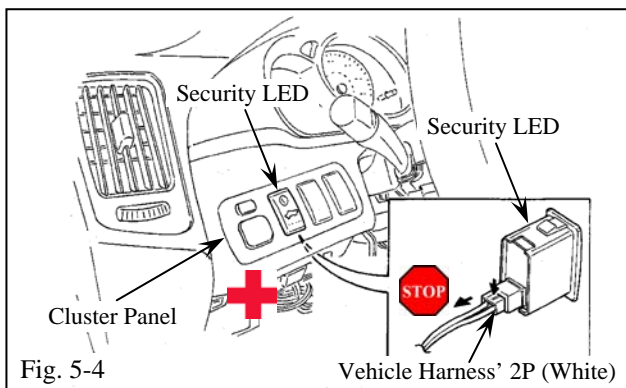

Fig. 5-4
- (e) Locate the security LED in the cluster panel. (Fig. 5-4)
- (1) Only perform this step if the vehicle has an Immobilizer system.